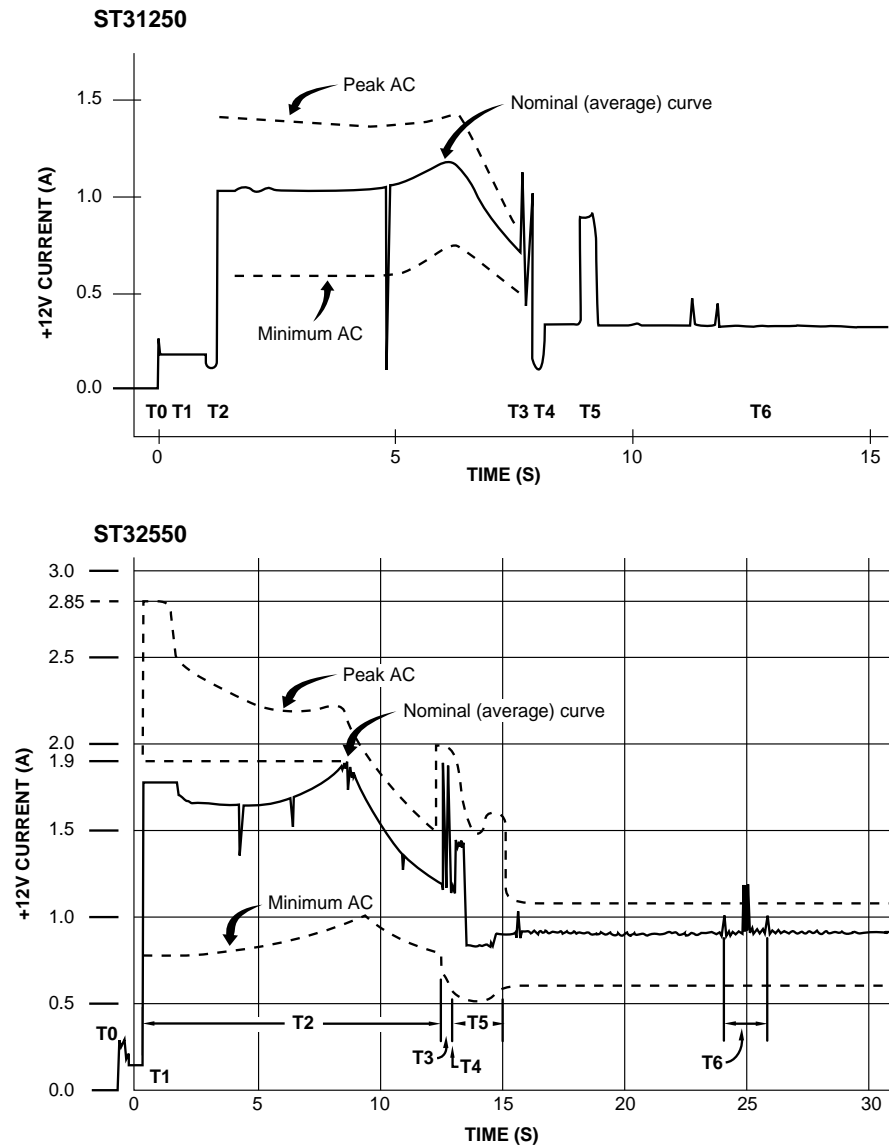

Figure 14. Barracuda 2LP drives typical +12V current profiles
- [3] See Figure 14.
Figure 14 identifies the drive's +12V current profile. The current during the various times is as shown.